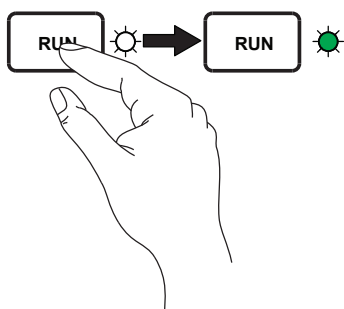

Figure 22. Run Button (Starting)
2. Next, press the **RUN** button (Figure 22) on the control panel for at least 2 seconds to start the preheat cycle.
5. Once the engine has started and has reached normal operating speed, the **RUN** LED (Figure 22) will turn on and the unit will enter warm-up mode.